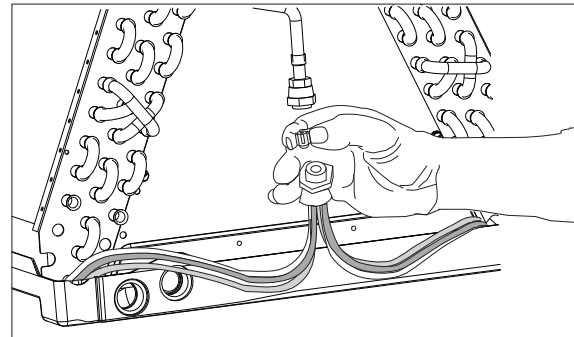

Figure 11. Restrictor Insertion in Distributor Body
4. Select the proper size restrictor and place it **rounded end down** into the distributor body (See Figure 11).